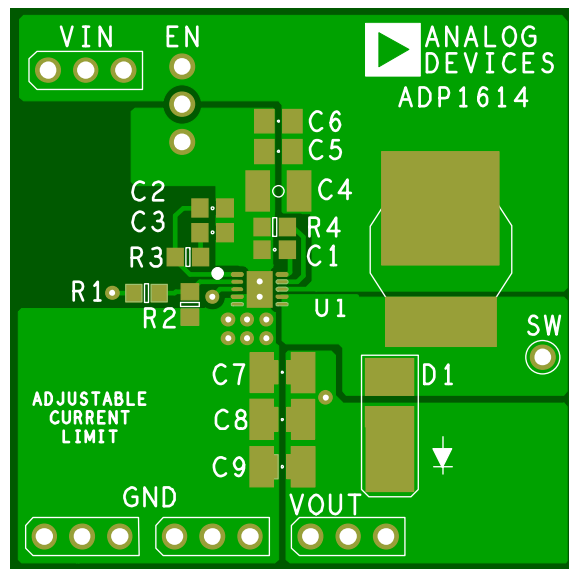

Figure 35. ADP1614 Recommended Top Layer Layout for the Adjustable Current-Limit Boost Application
- Keep the low ESR input capacitor (C_{IN}), which is labeled as C4 in Figure 35, close to VIN and GND. This minimizes noise injected into the part from board parasitic inductance.
- Keep the high current path from VIN through the inductor (L1), the rectifier (D1), and the output capacitor (C_{OUT}), which is labeled as C7 in Figure 35, as short as possible.
- Connect the soft start capacitor (C_{SS}), which is labeled as C1 in Figure 35, as close as possible to the device. Connect the ground of the soft start capacitor to an AGND plane that makes a Kelvin connection to the GND pin.
- Connect the current-limit set resistor (R_{CL}), which is labeled as R4 in Figure 35, as close as possible to the device. Connect the ground of the CL resistor to an AGND plane that makes a Kelvin connection to the GND pin.